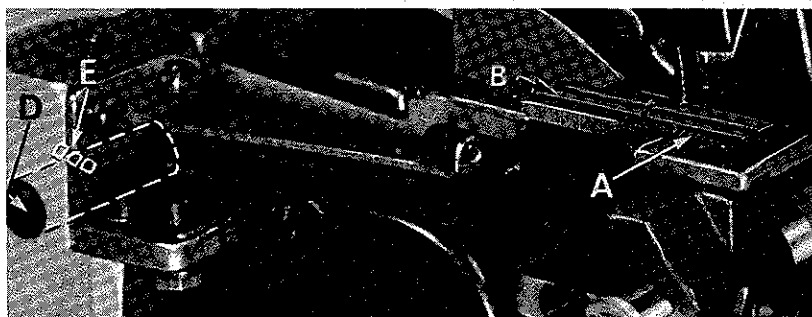

Fig. 12
Set the feed dogs (A, B, Fig. 12) so the top surfaces of feed dogs all lay in the same plane. This can be checked by sighting across teeth with a straight edge. Now assemble throat plate. Feed dogs should now be leveled with throat plate surface by rotating feed tilting adjusting pin (D). This pin raises or lowers the back end of both feed bars at the same time.